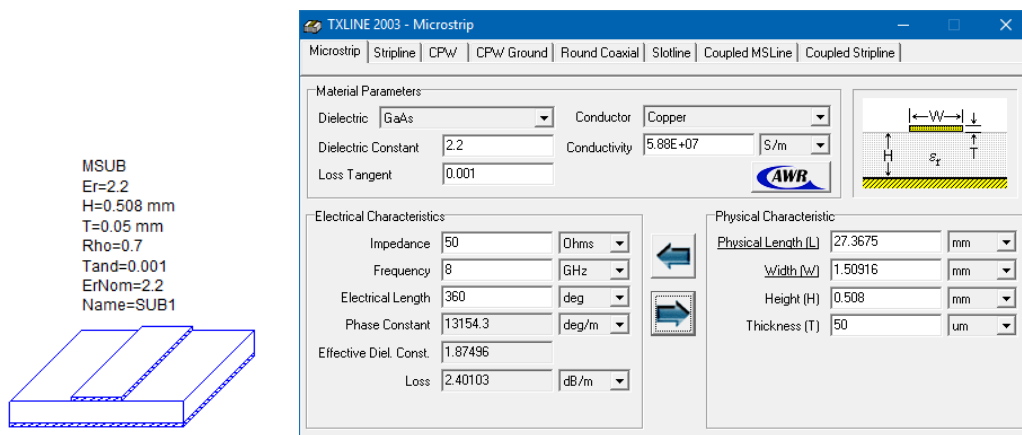

Fig. 4 Definition of the substrate and parameters of a  $50 \Omega$ -microstrip line.
- In our example, at 8 GHz:  $w = 1.51$  mm and  $\lambda_g = 27.37$  mm, as shown in Fig. 4. All line lengths should be shorter than  $\lambda_g/2$  which means  $< 13.69$  mm.